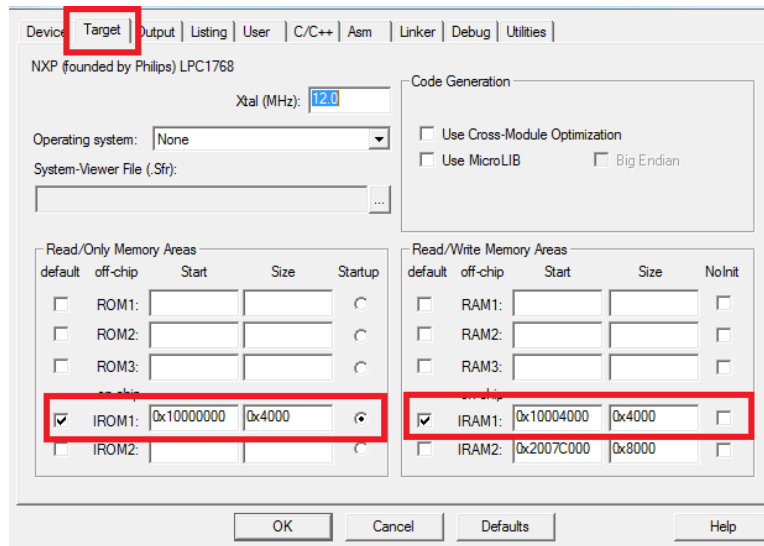

Figure 1.10: Keil IDE: Target In-Memory Execution Memory Map Configuration
- the in-memory execution memory map is used (see figure1.10); and